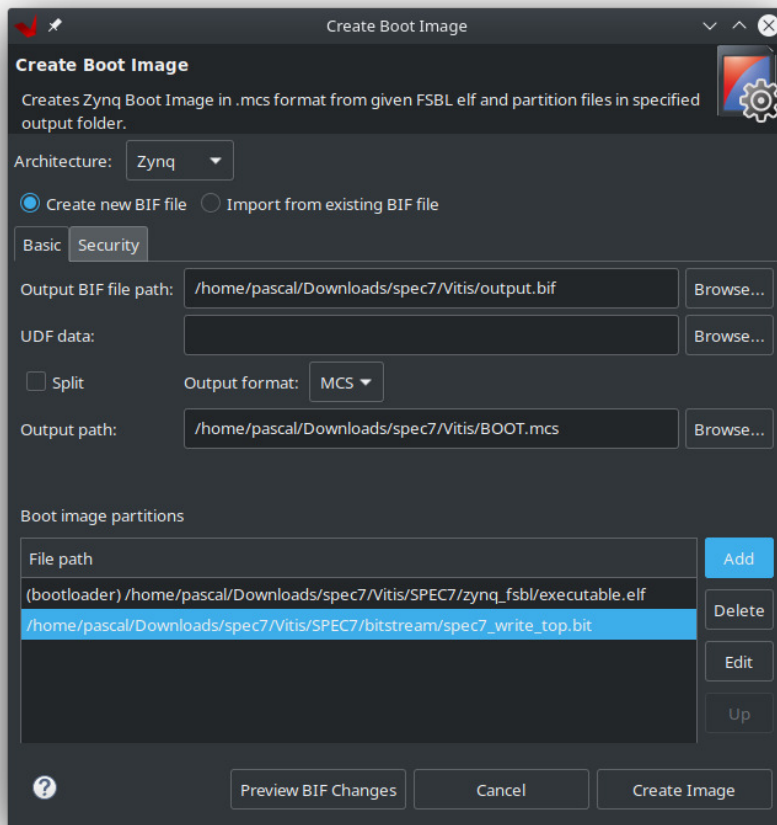

Figure 38: Create Boot Image in Vitis
15. Click on "Add" another time and specify your bitfile and click on "OK". Your "Create Boot Image" window should look something like figure 38